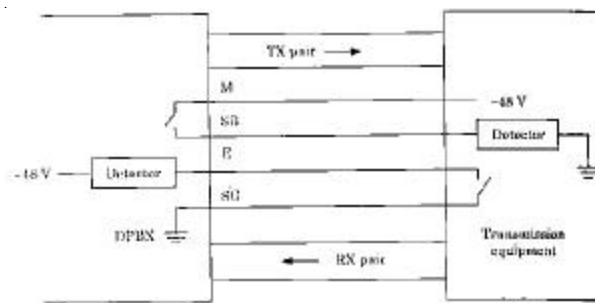

Fig. 27.1: Type II E & M interface
As indicated in Fig.27.1, an E&M trunk is defined as an interface to a transmission system and not a transmission system itself. The interface in Figure 27.1 has a four-wire voice path, an E lead with an associated return lead (SG), and an M lead with an associated return (BB). Thus there are eight wires in this interface (referred to as a type 11 E&M interface). Other types of E&M interfaces are defined with as few as four wires (a two-wire voice path, a E lead, and an M lead with earth ground returns).